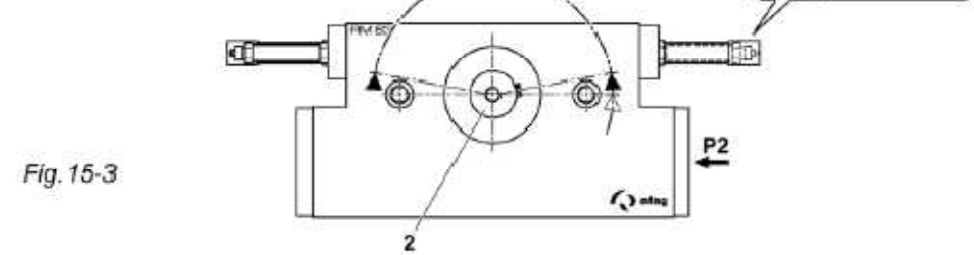

Fig. 15-3
5. Screw in the right-hand stop screw (5). The pinion shaft (2) turns in anti-clockwise direction. Finely adjust the stop screw until the pinion shaft has turned to the desired position. Now secure the stop screw with the lock nut (6) (Fig.15-3).